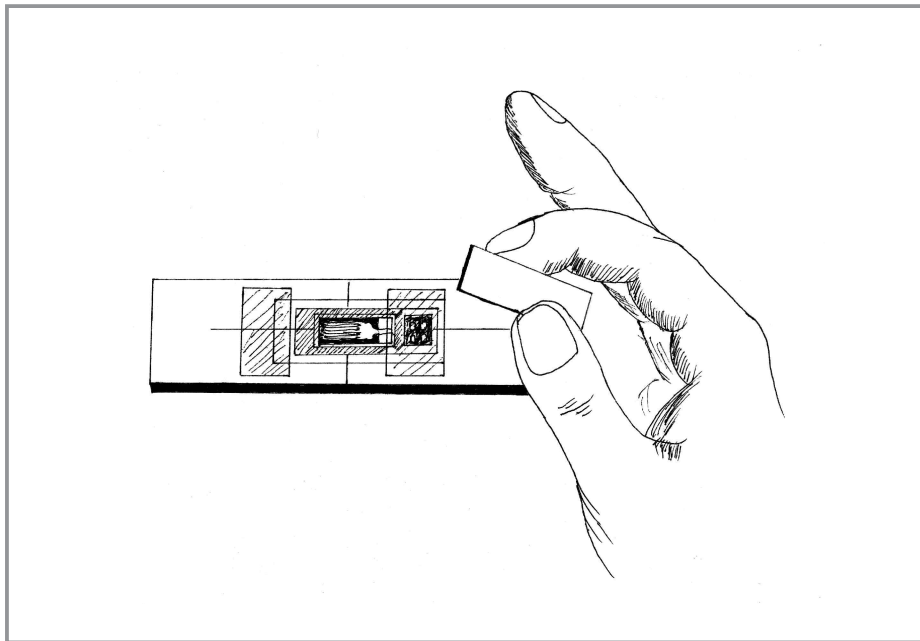

Fig. 10
**3-7** Cut a 2.5mm thick silicone rubber pad and an aluminum plate with a slightly larger size than the area of the gauge and its terminals. Overlap this silicone rubber pad and the aluminum plate in sequence onto the gauge as shown in Fig. 10. Make sure that the silicone rubber pad does not extend over the Teflon film on at least one side, so that the excess adhesive can easily be pressed and squeezed out by the clamping pressure.